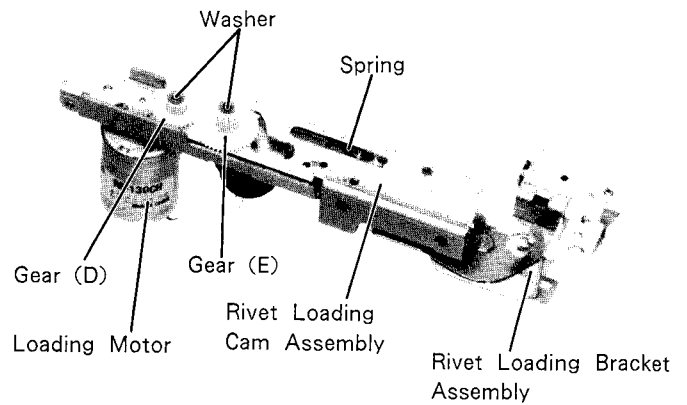

Figure 18
(1) After removing the Rivet Loading Bracket Assembly, remove the gear (D) and gear (E) as shown in Figure 18.
(2) Remove the Washer and "E" ring as shown in Figures 18 and 20.
2) Remove the spring and them at the same time as shown in Figure 18.